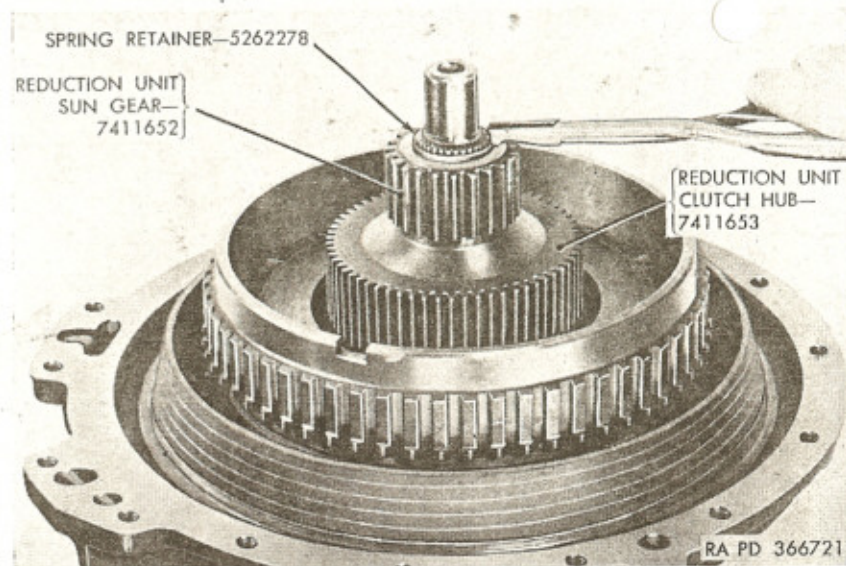

Figure 214. Installing spring retainer on output shaft (303M).
i. Install reduction unit clutch hub and reduction unit sun gear (fig. 214) on the transmission output shaft.
j. With snap ring pliers, install spring retainer (fig. 214) in groove of transmission output shaft.